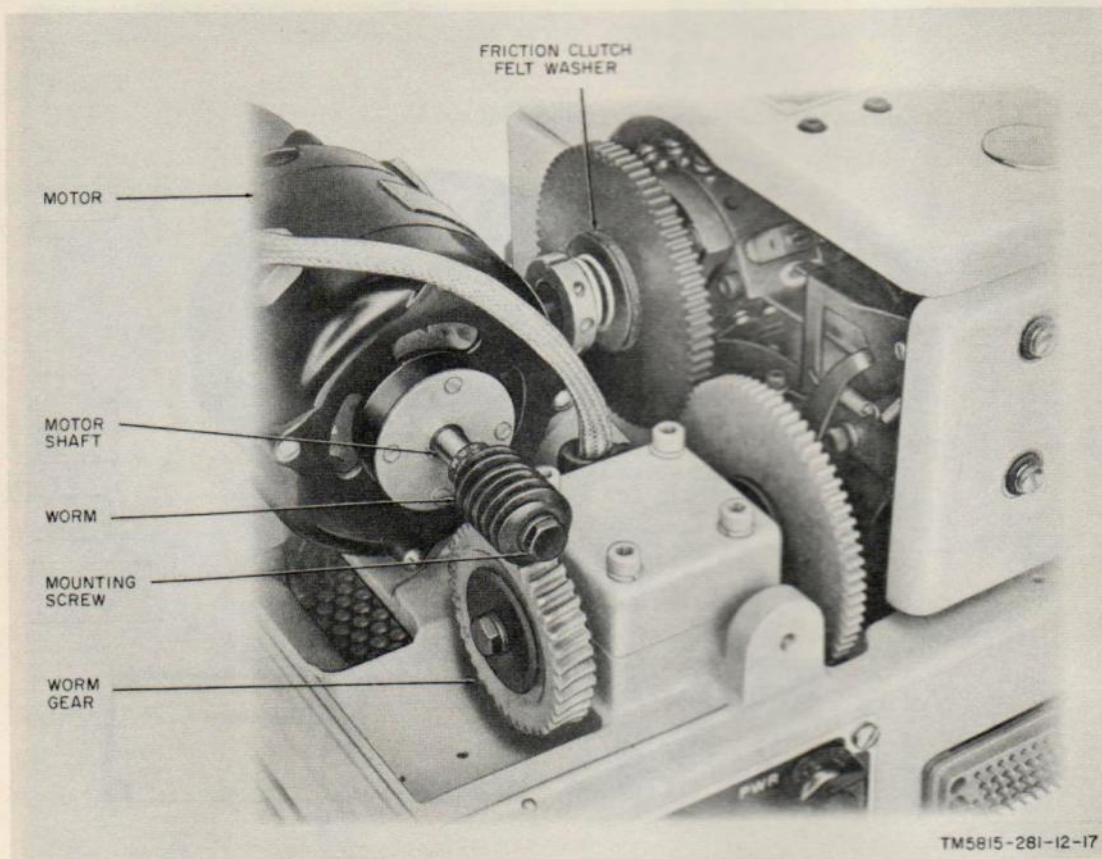

Figure 17. Friction clutch assembly and drive gear set.
b. *Lubrication.* Remove the three shoulder screws that secure the motor dust cover on the transmitter; remove the dust cover. Apply 10 to 15 drops of oil on each felt washer (fig. 17) in the friction clutch assemblies. Wipe off any excess oil with a cloth.
## 27. Changing the Operating Speed (fig. 17)